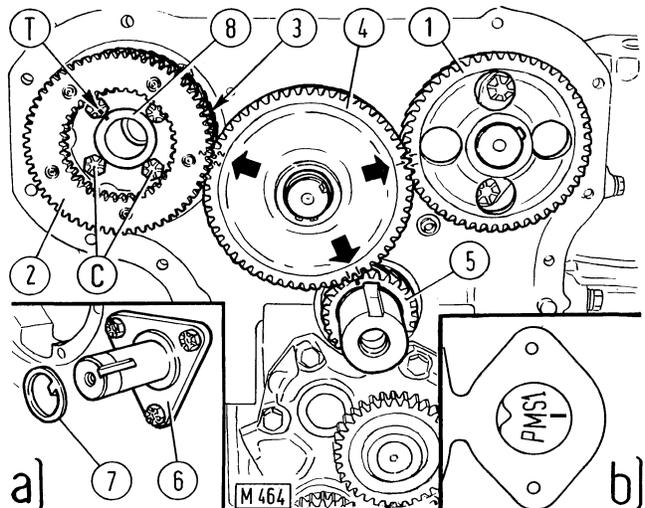

Fig. 2-15 Valve timing
- Slacken the fuel injectors and rotate the crankshaft until reference mark P.M.S. 1-4 (stamped on flywheel periphery) lines up with the associated fixed timing pointer (Fig.2-15), checking that cylinder No. 1 is on firing stroke (to this end turn the crankshaft a few degrees in opposite directions to ensure that the valves of cylinder No. 1 are closed and those of cylinder No. 4 are in a condition of balance)
- Position gears 1 and 5 so that the associated reference marks (Fig. 2-15) are in register and insert intermediate gear 4.